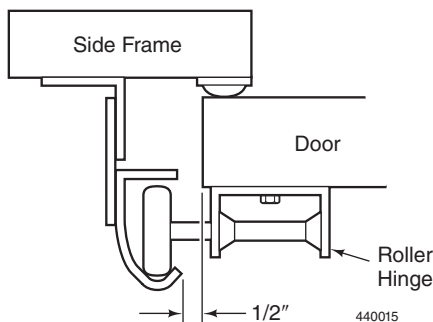

Figure 13
5. Verify the clearance between the Door and the Vertical Track. It should be 1/2". See Figure 13.